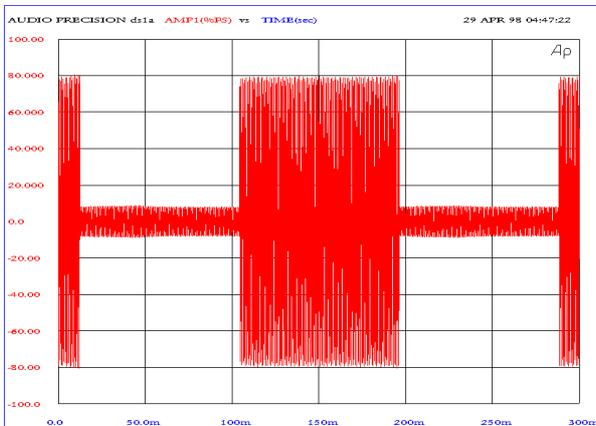
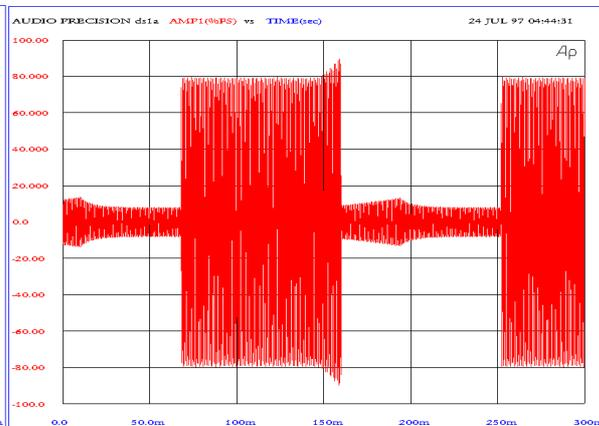

Fig. 3
Fig. 4
**Fig. 3** The preview time is now about three times the attack time, which gives the sidechain a headstart on the audio signal. The result is a proper limiting without overshoot.
**Fig. 4** As useful the preview facility in Fig 3 is, it can have an unwanted effect at the release portion. A relatively short release time causes the release to show up during the last milliseconds of the burst. This because the sidechain "sees" the "burst off" before the gain stage sees it (preview delay), so the end of the burst gets influenced by the release.
**Figs. 5 and 6** The effect described in Fig. 4 can be eliminated with the Release Delay parameter. The release is delayed for a certain time and thus can not influence the end of the burst anymore. In Fig 5 the release delay is not quite long enough, while in Fig. 6 there is no release influence visible anymore.